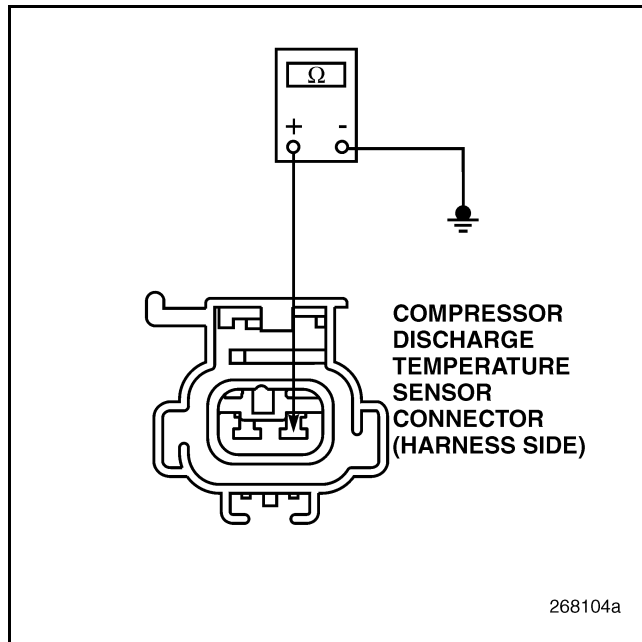

Figure 821
4. Check for continuity between pin 1 of the CDT Sensor harness connector and a good ground (see Figure 821).